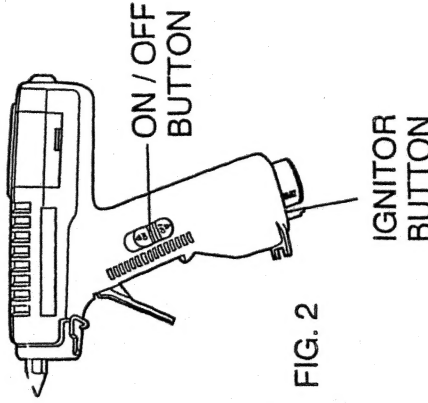

FIG. 2
3. —Push the orange ON/OFF button forward to the ON position to start the gas flow. See Figure 2.